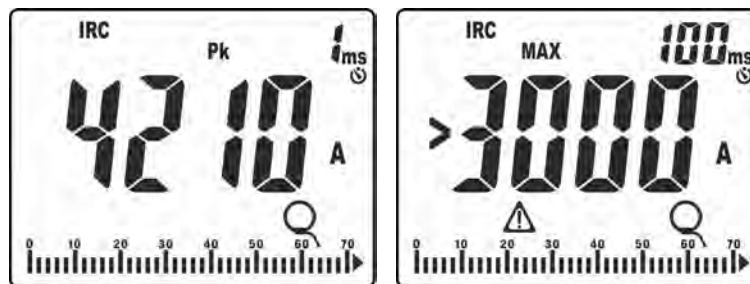

Fig. 42: Examples of display of inrush current
- Peak value "Pk" calculated in **1ms** (see Fig. 42 – left side)
11. If the measured current is higher than the set FS of the clamp, a message like the one in Fig. 42 – right side (relevant to FS = 3000A) is shown on the display.